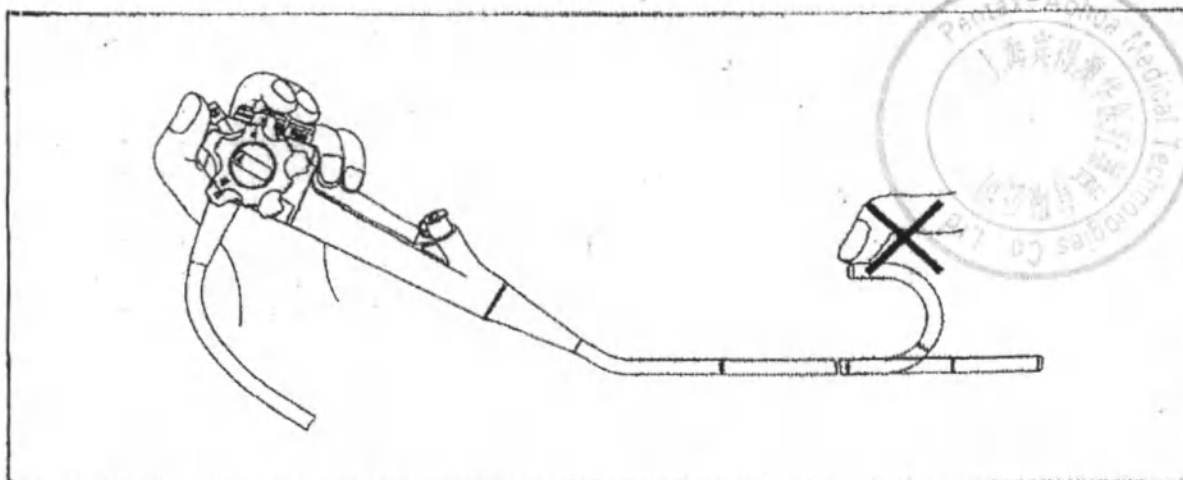

Fig.10.
4. Slowly actuate the bend control knob to make sure that the bending part, the bending knob and the bend lock work flexibly, efficiently, reliably and do not jam. Make sure that the bending angle meets the requirements. (see Fig. 10)